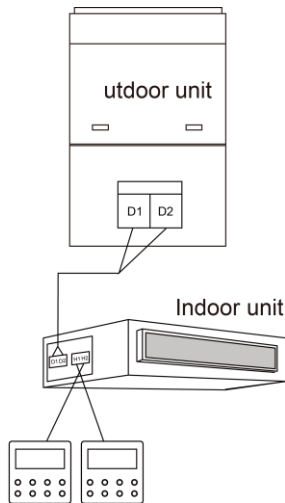

Fig. 5.7 Two wired controllers
- (3) When two wired controllers control multiple indoor units, wired controller can be connected to any one indoor unit, while the connected indoor unit should be the same series indoor unit. The addresses of those two wired controllers should be different. Please refer to 5.2.3 parameter setting. The total quantity of indoor unit controlled by wired controller can't be more than 16 sets and all connected indoor units must be within the same indoor unit network. Wire controller must set quantity of group control indoor units. Please refer to 5.2.3 Parameters Setting.
- (4) When one (or two) wired controller(s) control(s) multiple indoor units at the same time, the controlled indoor unit's setting should be the same.
- (5) Wiring of wired controller and indoor unit network must be according to one of the four wiring method as shown in fig 5.6-5.9. As for the connection method shown in fig 5.7 and 5.9, there should be only one master wired controller (address is 01) and one slave wired controller (address 02). The quantity of wired controller can't exceed two.